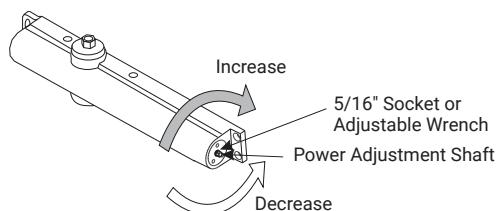

Figure 4 - Opening Door Control
- "Backcheck" valve controls the strength of cushioning in Backcheck Range. NEVER close this valve completely – it is not to provide a positive stop. (see Figure 4 and Figure 5)